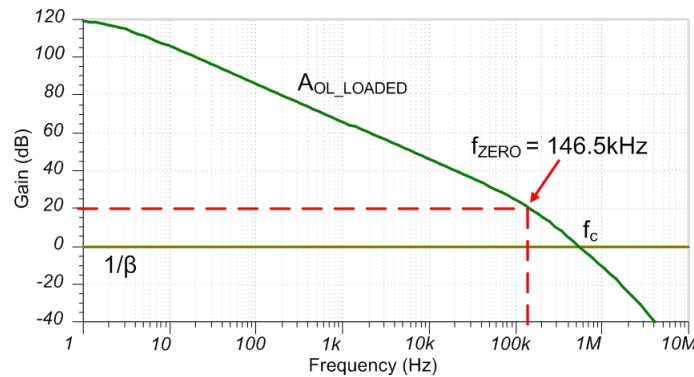

Figure 37. Example of f_{ZERO} , Where $A_{OL_Loaded} = 20$ dB
1. Use TINA-TI™ to find the zero frequency, f_{ZERO} , where $A_{OL_Loaded} = 20$ dB (example shown in Figure 37).